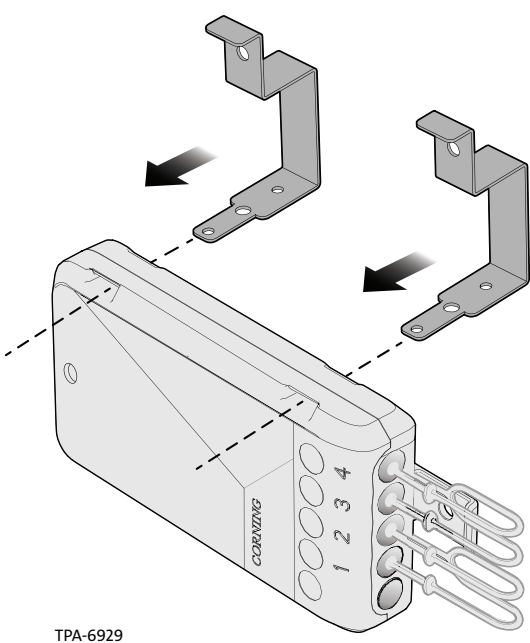

Figure 5
Step 1: Slide main bracket into side slots on terminal, from the rear (Figure 5).